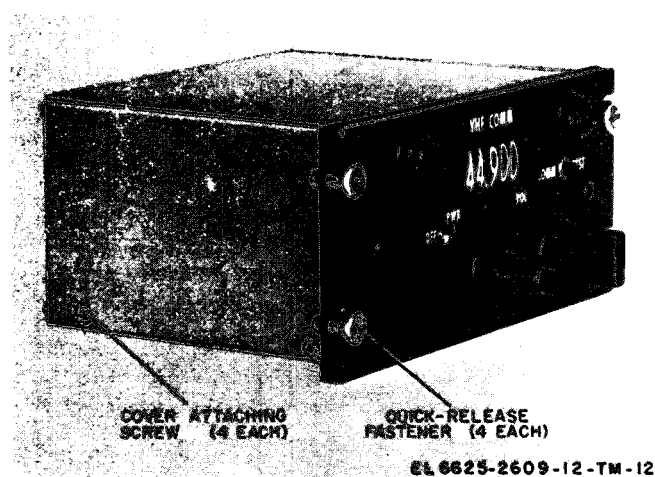

Figure 3-2. Radio control disassembly.
a. Rotate the quick-release fasteners (fig. 3-2) one-quarter turn counterclockwise.
c. Remove the cover attaching screws (fig. 3-2) and lift the cover from the radio control.